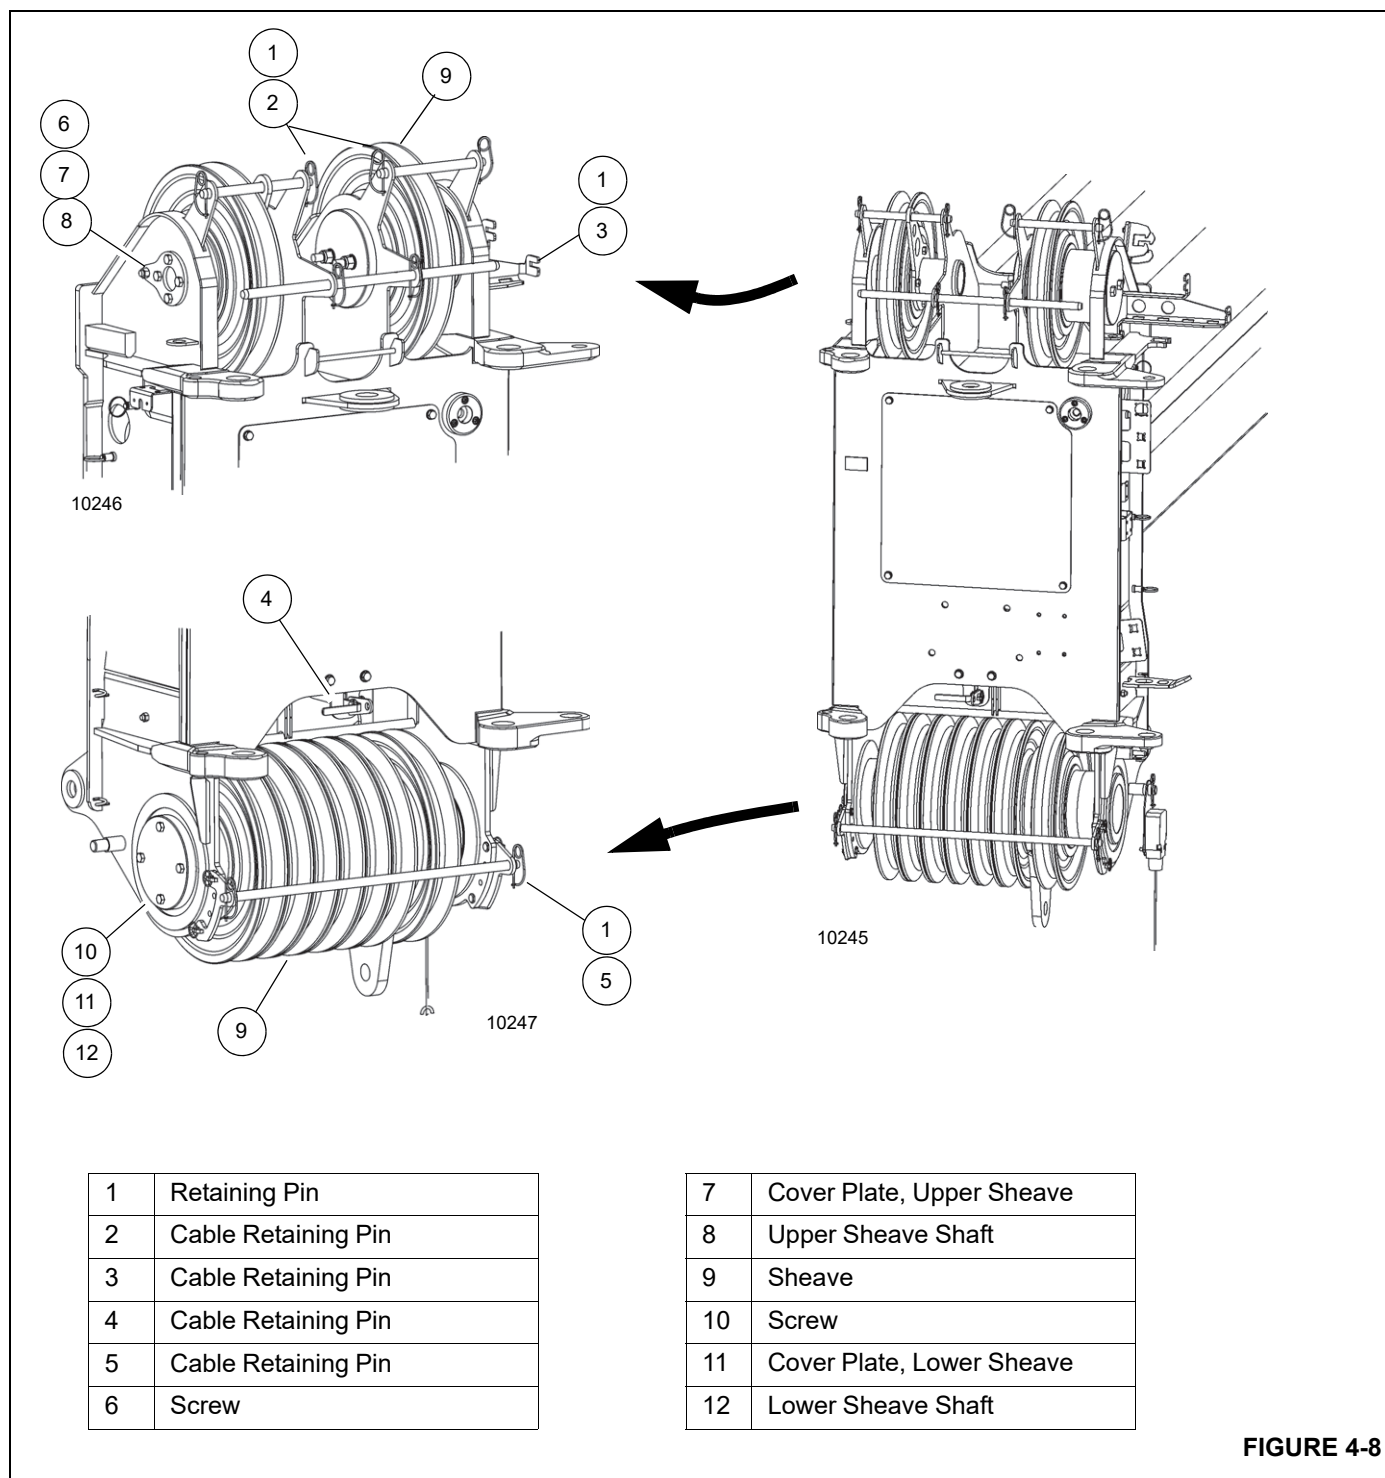

FIGURE 4-8
1. Remove the securing pins (1, Figure 4-8) from the cable retainer pins (2 and 3) and remove the cable retainer pins from the upper and lower part of the boom nose.
2. Pull the lever to retract the lower inside cable retainer pin (4).
3. Remove the hex head screws (5) securing the cover plate (6) to the upper boom nose sheave (7). Remove the cover plate.
6. Carefully pull the lower boom nose sheave shaft (12) from the boom nose, removing the spacers, rope fixed point assembly, and boom nose sheaves (9, Figure 4-8). Note the quantity of the spacers for installation.
Refer to Figure 4-8 when performing this installation.